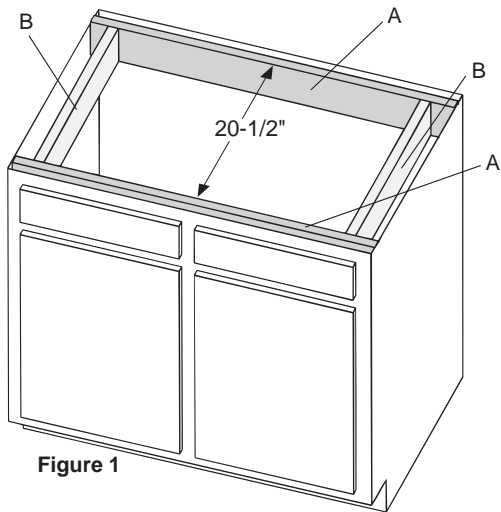

Figure 1
2. Attach two support boards to the sides of the cabinet, one in front and one in back, placing them 20 1/2" apart and equal distances from the centerline (see **Figure 1, A**). Place the boards at the proper height to allow the top of the sink to be flush with the top of the cabinet. It may be necessary for you to reinforce the sides of the cabinet for it to support the 350-pound minimum.
4. Now that you have the sink in position, attach two more 20 1/2" boards between the support boards (see **Figure 1, B**).